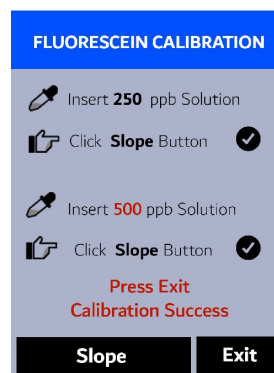

Figure 25.
17. If the calibration succeeds, a second checkmark () "Calibration Success" message will appear (Figure 25). Otherwise, a warning message is displayed.